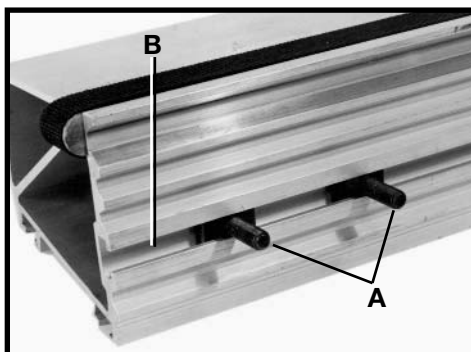

Fig. 32
1. Slide two T-bolts (A) Fig. 32 into channel (B) located at the rear of duplicator rail.